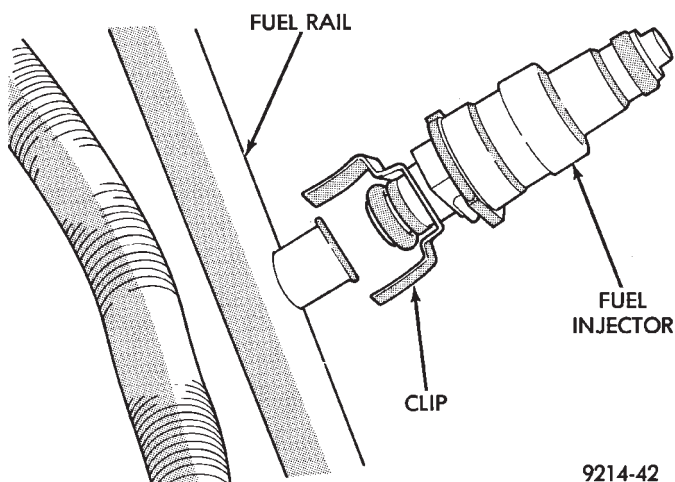

Fig. 19 Servicing Fuel Injector—Typical
(1) Before installing an injector the rubber O-ring must be lubricated with a drop of clean engine oil to aid in installation.
(2) Install injector clip by sliding open end into **top slot** of the injector. The edge of the receiver cup will slide into the side slots of clip (Fig. 19).
(3) Install injector top end into fuel rail receiver cap. Be careful not to damage O-ring during installation (Fig. 19).
(4) Repeat steps for remaining injectors.
(5) Connect fuel injector wiring.